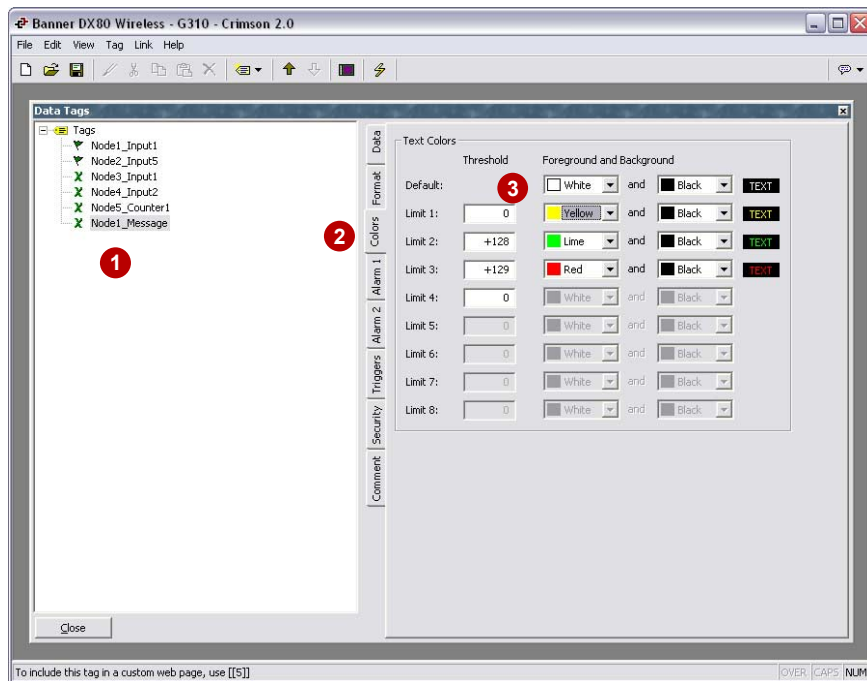

Figure 21
3. Enter the limit value and change the foreground as shown in Figure 21.